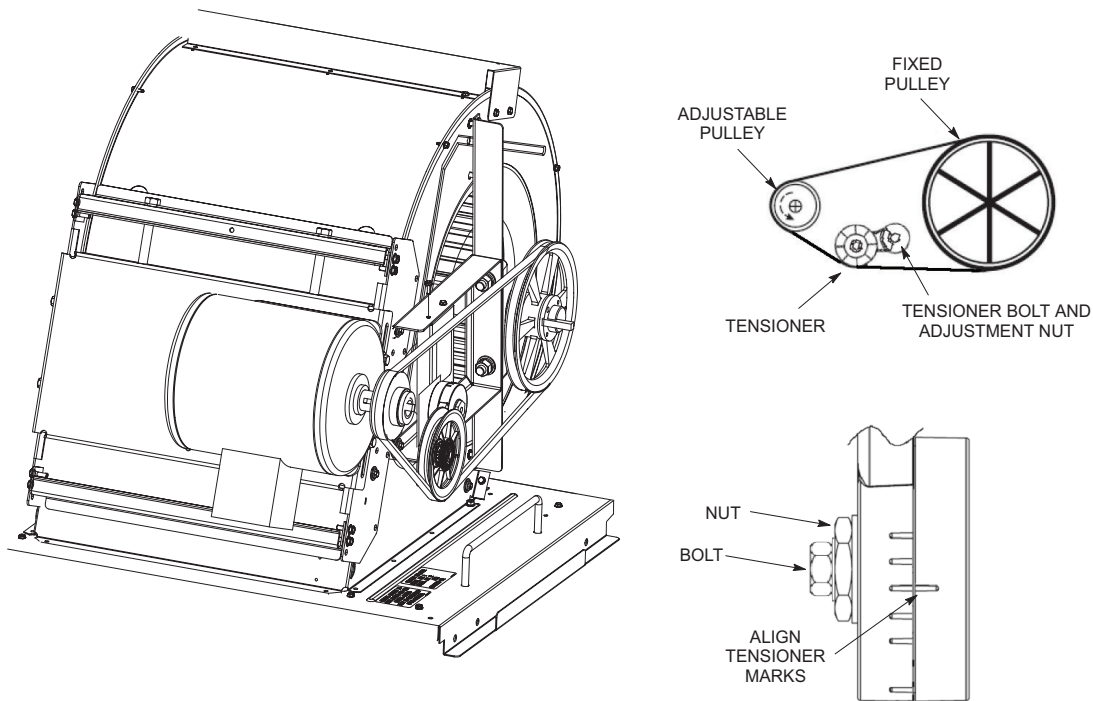

FIGURE 20
- 1 - Loosen the bolt in the center of the tensioner. See FIGURE 20.
- 3 - Using a 15/16" wrench, turn the tensioner nut until marks align as shown in FIGURE 20.